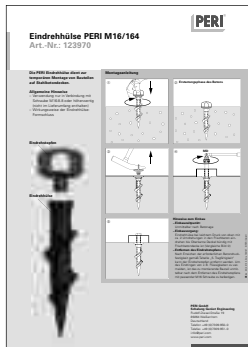

Fig. C4.05
- Installation of the PERI Screw-In Sleeve M16/164, see Technical Data Sheet. (Fig. C4.05)